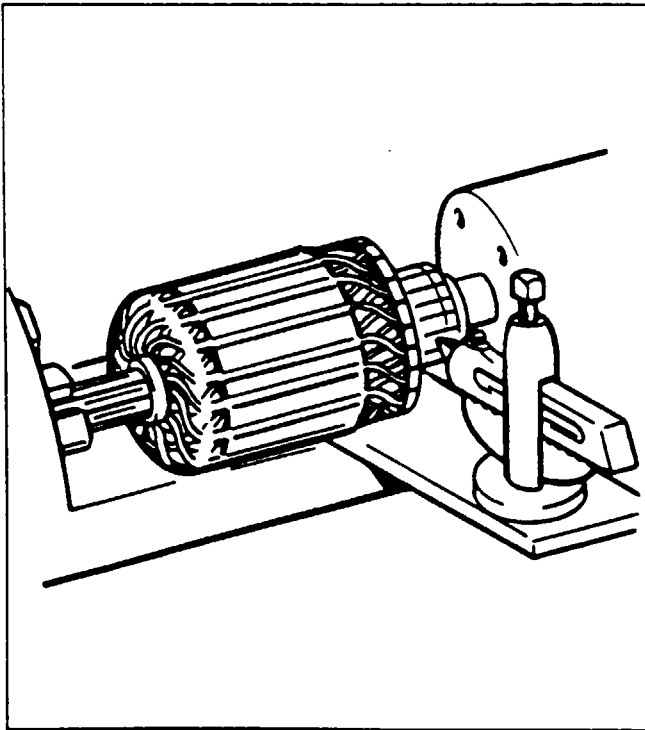

Figure 80-2. Turning Motor
1. Check the commutator for uneven wear, excessive glazing or evidence of excessive arcing. If only slightly dirty, glazed or discolored, the commutator can be cleaned with 00 or 000 sandpaper. If the commutator is rough or worn, it should be turned in a lathe. (Refer to Figure 80-2.) The armature shaft should be inspected for rough bearing surfaces and rough or damaged splines.